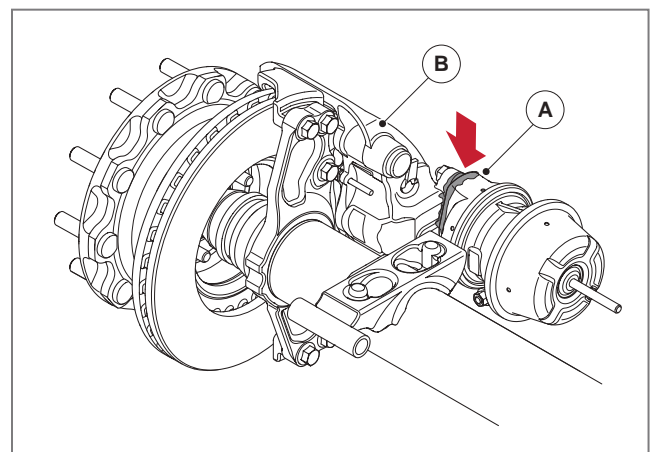

Fig. 43 - Mating surfaces of the brake chamber and brake caliper
Thoroughly clean around the mating surfaces of the brake chamber (A) and brake calliper (B) to ensure that dirt does not get into the mechanism area when removing the brake chamber, see ► Fig. 43.